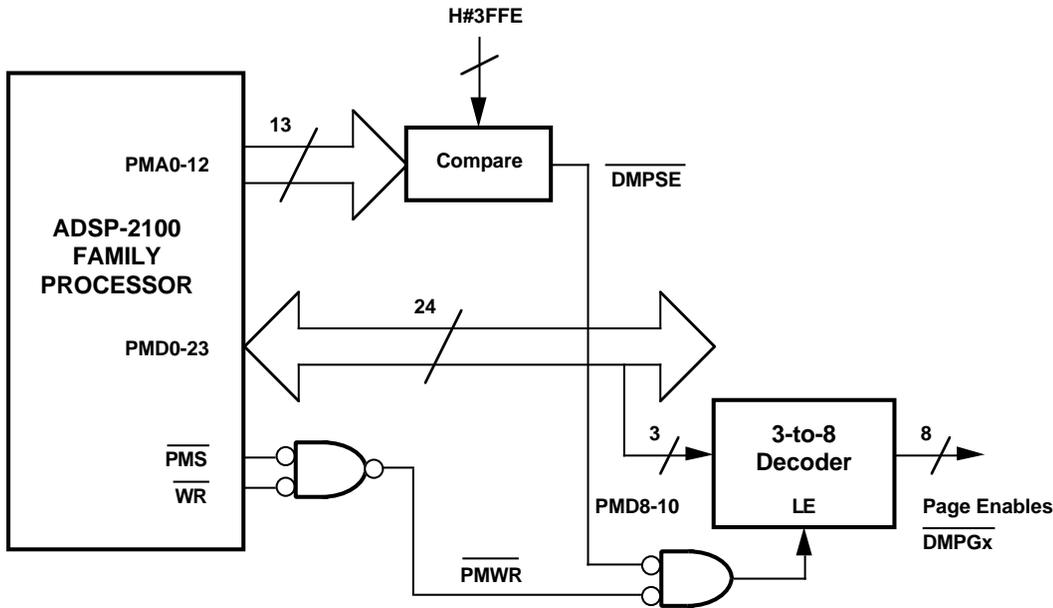

Figure 16.3 Data Memory Page Enables
PMD8-10 from the ADSP-2100 Family processor are input to a 3-to-8 decoder with latchable outputs, as shown in Figure 16.3. The 3-to-8 decoder is always enabled; its latched outputs are only updated on the rising edge of its Latch Enable (LE) input. The outputs of the 3-to-8 decoder are the data memory page enables (DMPG_x, where x is the page number).